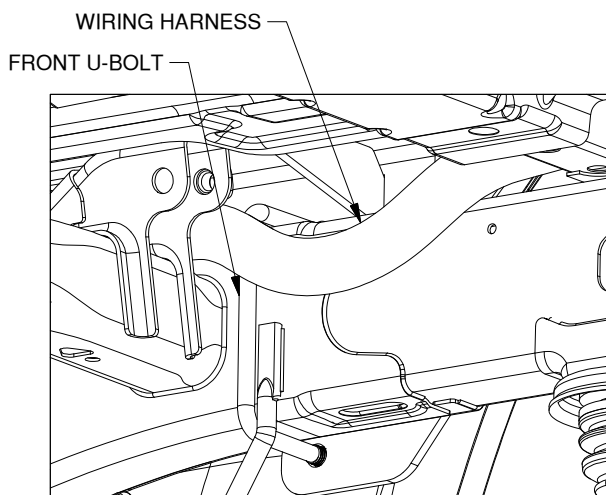

Figure C8: View looking at passenger side of frame.
- 5. Install the passenger side plate.** Repeat this process for the passenger side plate. The passenger side front U-bolt will need to be positioned under the wiring harness that runs over the top of the frame, see Figure C8.